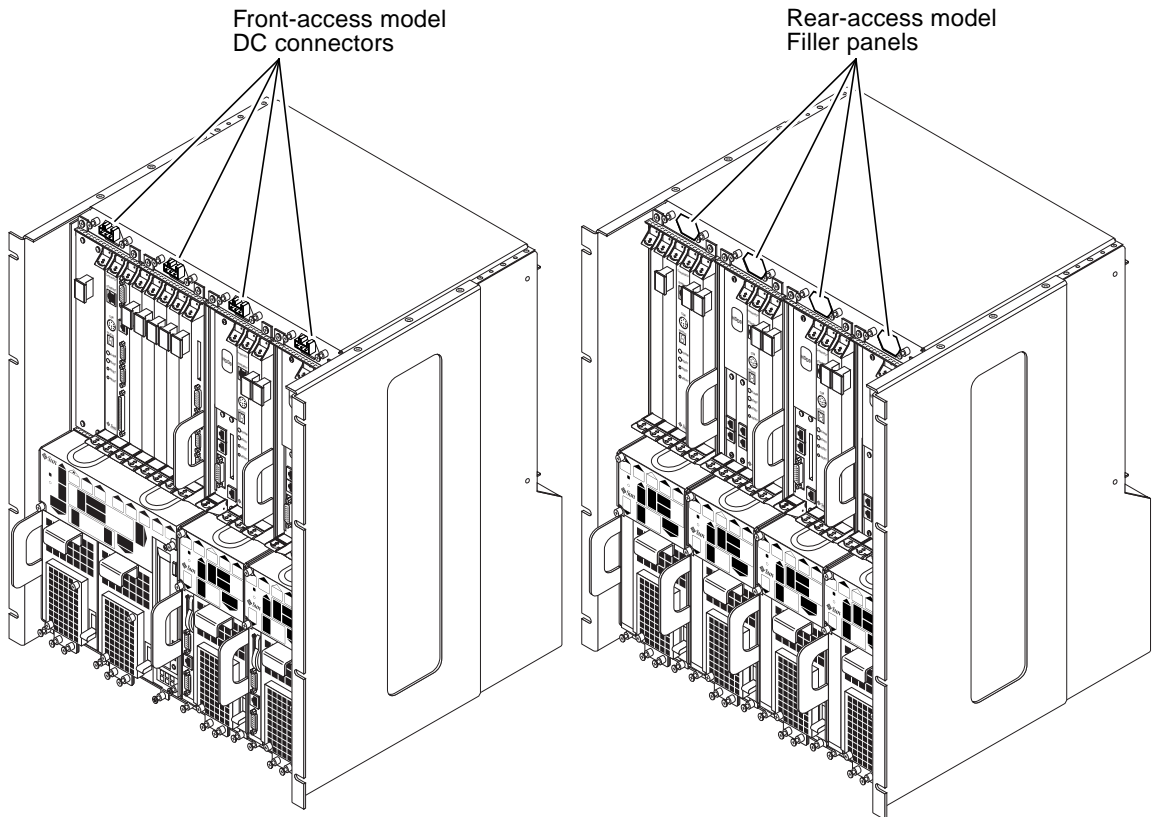

FIGURE 1-2 Front-Access and Rear-Access Models
- If you see the DC connectors at the front of the chassis, then you have a *front-access model* (FIGURE 1-2).
- If you do not see DC connectors at the front of the chassis, and metal filler plates fill the gaps where the DC connectors would normally be, then you have a *rear-access model* (FIGURE 1-2). The DC connectors are at the rear of the chassis for the rear-access model.